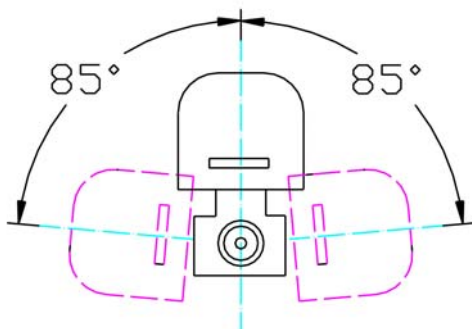

Fig. 4
3. Note: When the valve is mounted on horizontal pipe, the angle must be positioned less than 85° (see Fig. 4).